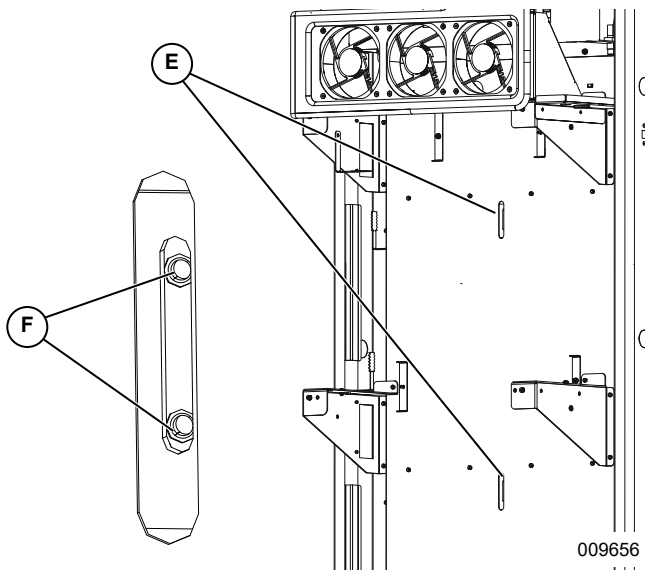

Figure 4-3. Mounting Bracket (2 of 2)
2. See **Figure 4-3**. Align body slots (E) with wall bracket holes (F).